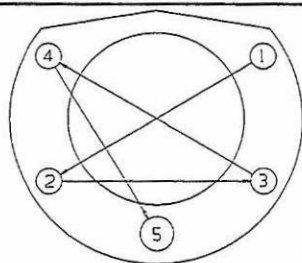

Figure 5 - Spindle installation nut tightening sequence.
1. Locate the spindle over holes 1 through 4 (Figure 5) in the axle housing flange. Using a transfer punch, mark the center of the bottom hole of the spindle.
3. Locate the brake backing plate over holes 1 through 4 (Figure 5) in the axle housing flange. Using a transfer punch, mark the center of the bottom hole of the axle flange.
7. While holding spindle, install 4 T-bolts in holes 1 through 4 (Figure 5).
NOTE: Torque bolts in the order shown in Figure 5.